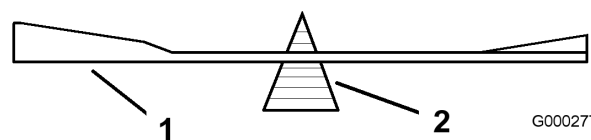

Figure 60
2. Check the balance of the blade by putting it on a blade balancer (Figure 60). If the blade stays in a horizontal position, the blade is balanced and can be used. If the blade is not balanced, file some metal off
the end of the sail area only (Figure 60). Repeat this procedure until the blade is balanced.